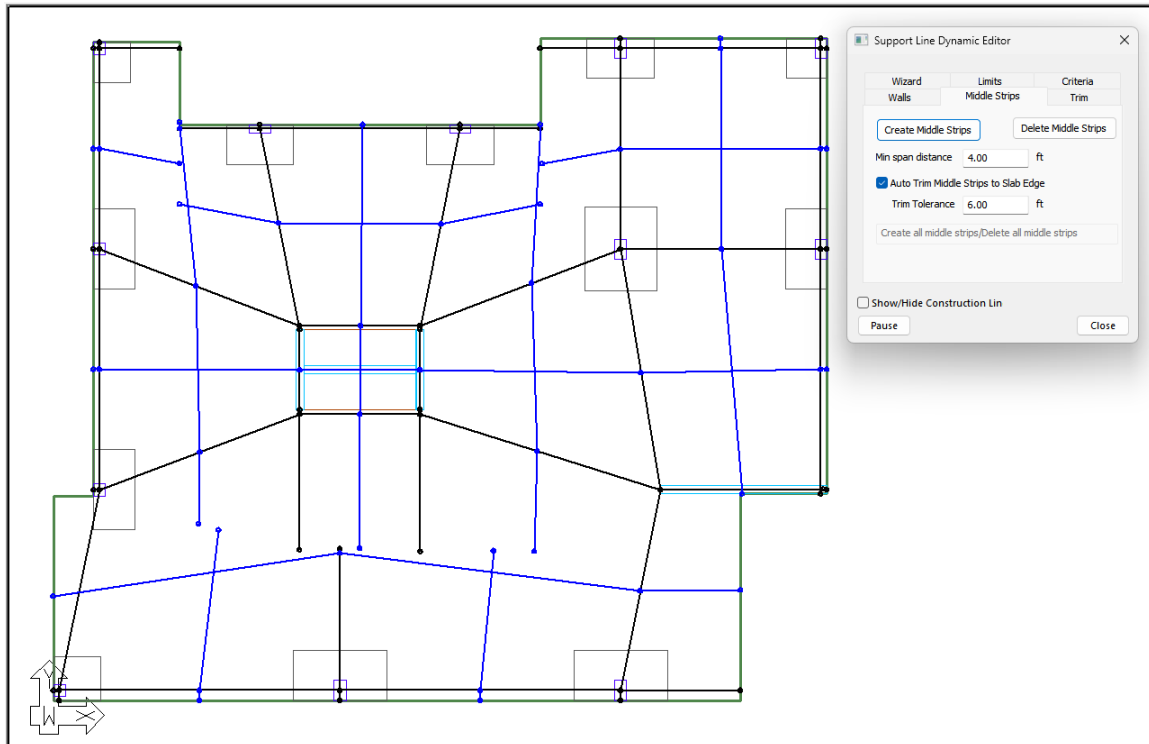

FIGURE 10-13
- Click the **Create Middle Strips** button. We can now see the southernmost horizontal middle strip extends to the slab edge, as shown in **Figure 10-13**.